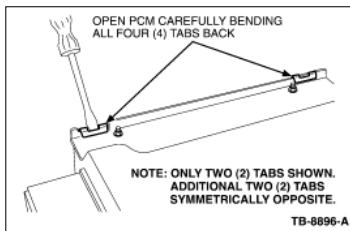

Figure 1 - Article 07-14-1
2. Remove the PCM cover by carefully bending back the four (4) retaining clips holding the galvanized metal cover to the top plate. (Figure 1)